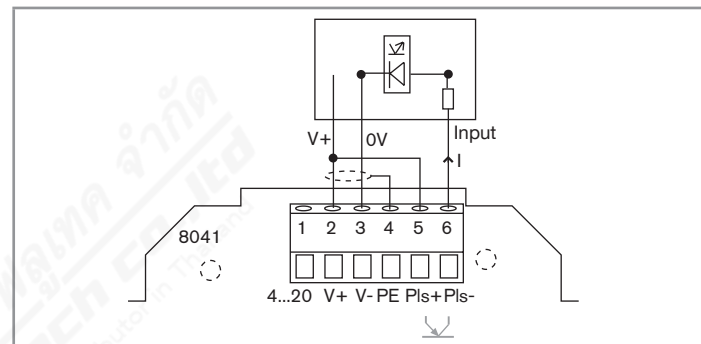
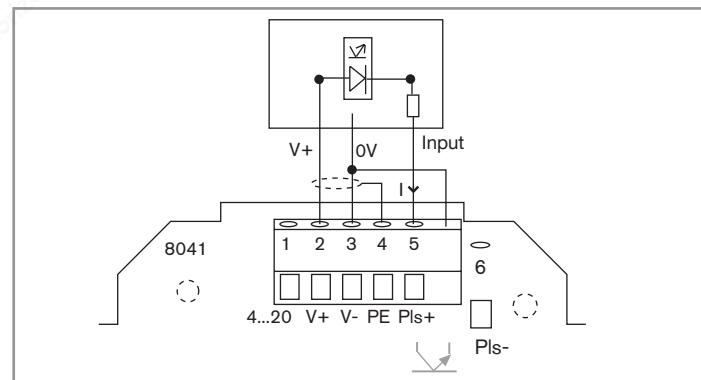

Fig. 19: PNP connection of the frequency output to a PLC
Fig. 20: NPN connection of the frequency output to a PLC
- to a PLC in PNP or in NPN mode (see Fig. 19 and Fig. 20) ;